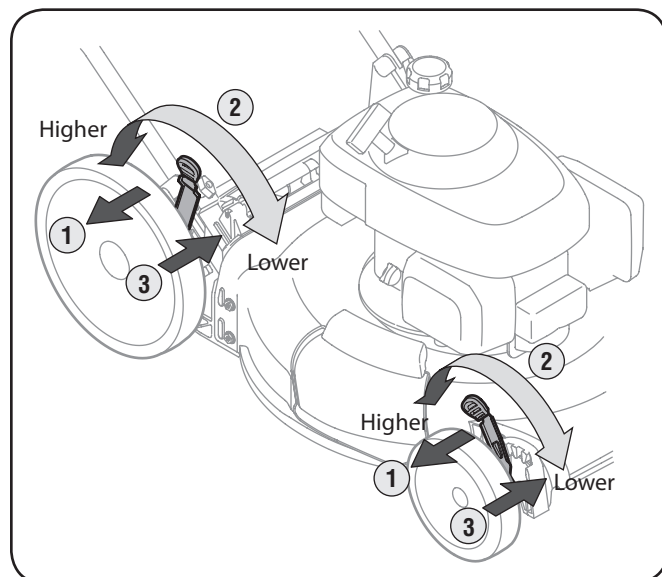

Figure 3-10
2. Move lever to desired position for a change in cutting height. See Figure 3-10.